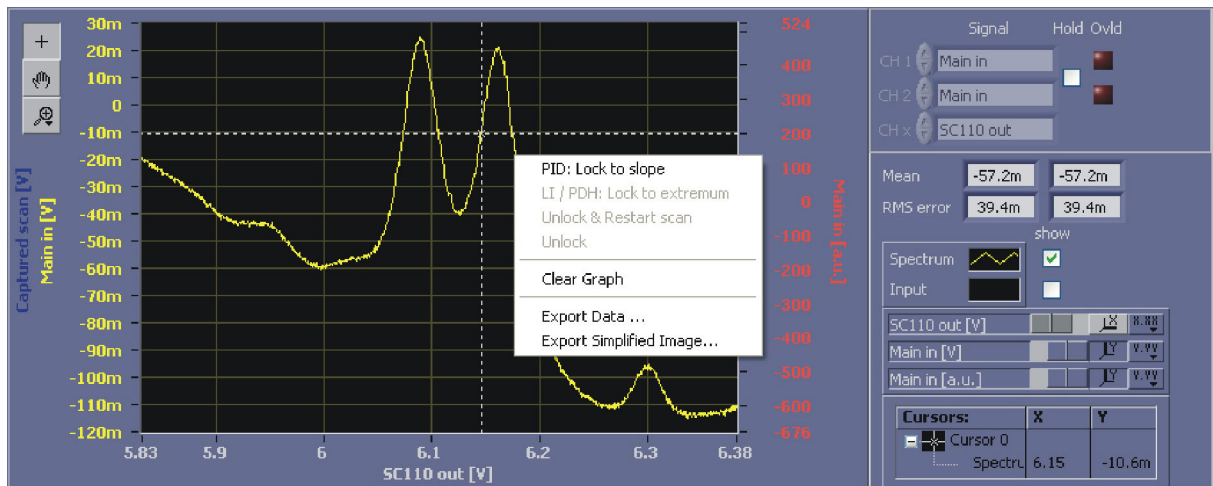
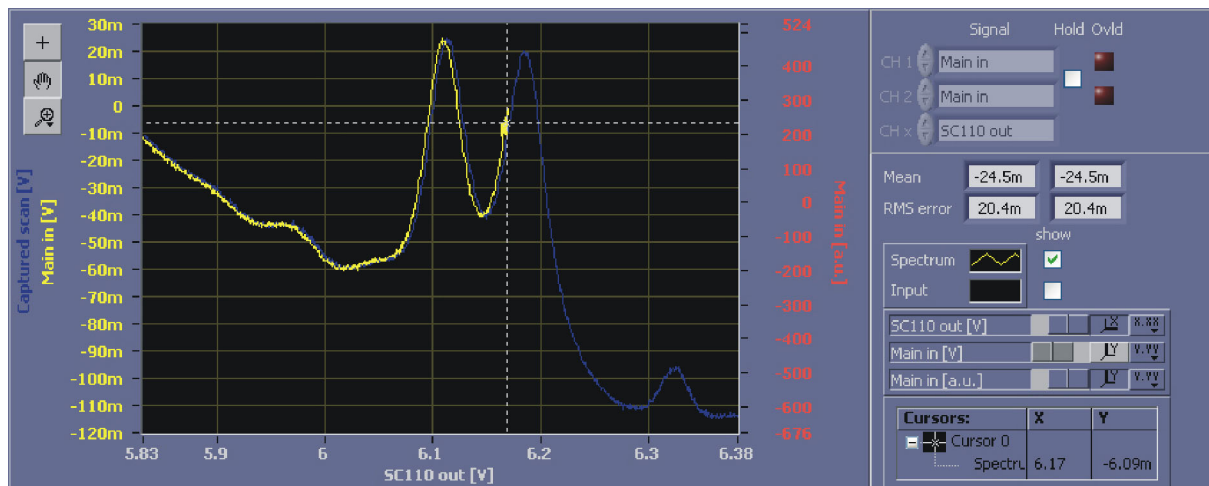

Figure 44 Initiating the AutoLock to a slope of the absorption signal
Figure 45 Autolock display just after the lock is engaged (PID: lock to slope)
19. Before the lock is initiated, the lock point must be selected by dragging the crosshairs in the graph of the AutoLock display to the desired position. When you drag the vertical line in the horizontal direction the crosshairs will follow the current trace. Once chosen, the crosshairs will automatically track the lock point while the laser might slowly drift. To engage the lock, click the right mouse button and choose *PID: Lock to slope* from the context menu (see Figure 44). Starting with the next trigger the trace captured is displayed in a different color (here yellow) while the held trace is visible (here blue¹²). Once the lock point is reached the trace stops and the lock is activated. Figure 45 shows the AutoLock display some seconds after the lock has been triggered.